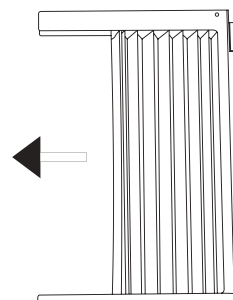

Fig.1
- 1.Place unit on floor, a bench or a table. Hold the Accordion Panel in one hand and gently pull back the center to free the open end. See Fig.1